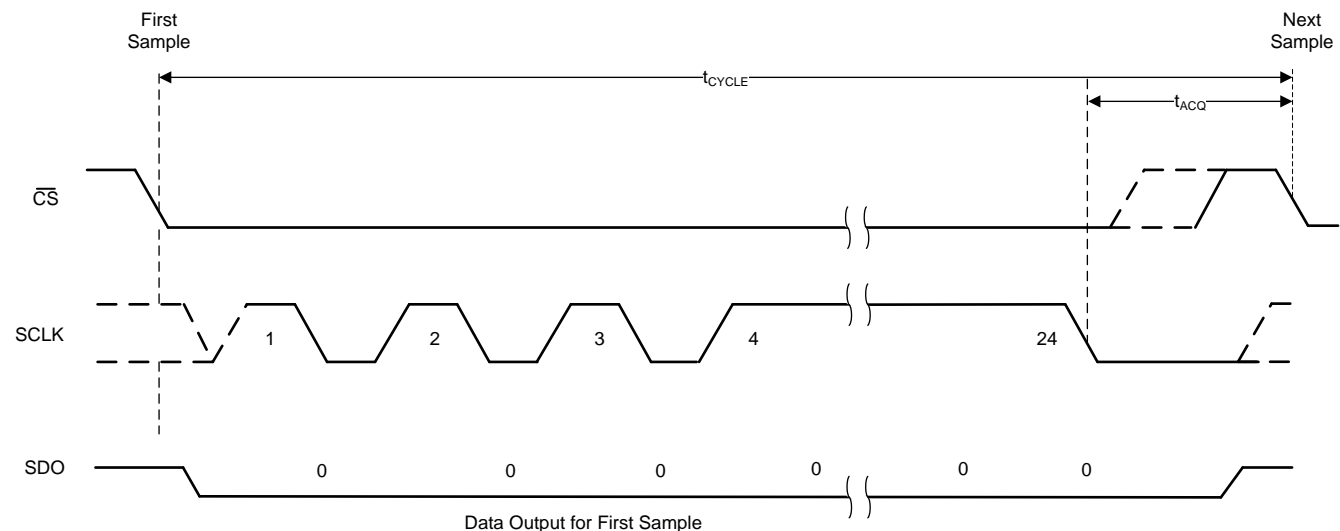
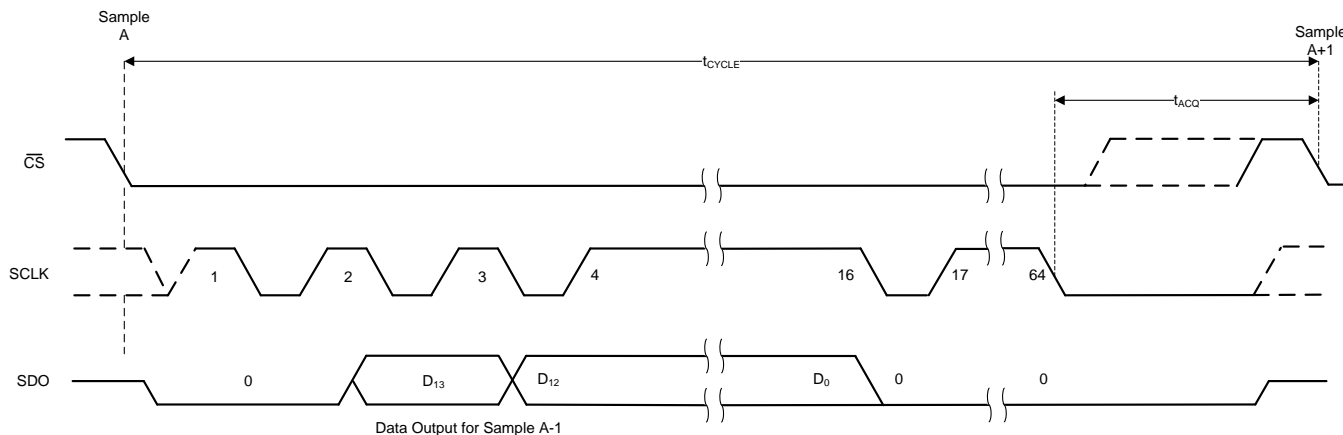

Figure 38. Timing for Offset Calibration on Power-Up
Figure 39. Timing for Offset Calibration During Normal Operation
The host controller must provide a serial transfer frame as described in Figure 38 or in Figure 39 to enter the OFFCAL state.
If the host controller starts the offset calibration process but then pulls the \overline{CS} pin high before providing 24 SCLKs, then the offset calibration process is aborted and the device enters the ACQ state. Figure 38 and Table 3 provide the timing for offset calibration on power-up.
(1) In addition to the timing specifications of Figure 38 and Table 3, the timing specifications described in Figure 2 and the Timing Requirements table are also applicable for offset calibration on power-up.
If the host controller provides more than 18 SCLKs but pulls the \overline{CS} high before providing 64 SCLKs, then the offset calibration process is aborted and the device enters the ACQ state. Figure 39 and Table 4 provide the timing for offset calibration during normal operation.
(1) In addition to the timing specifications of Figure 39 and Table 4, the timing specifications described in Figure 2 and the Timing Requirements table are also applicable for offset calibration during normal operation.